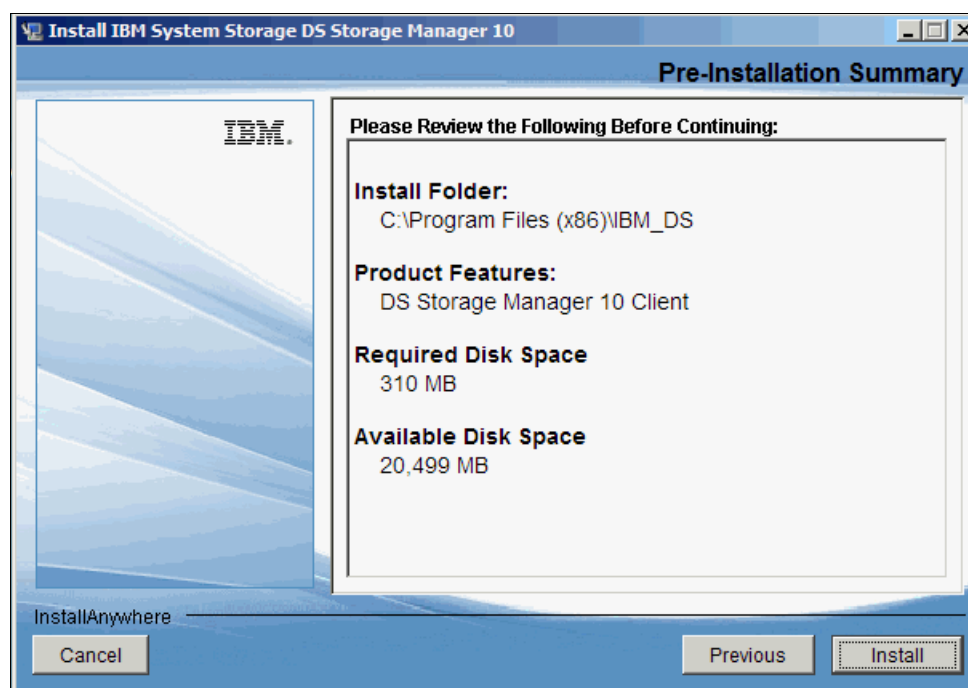

Figure 5-11 IBM DS Storage Manager Pre-Installation Summary
11. Verify the pre-installation summary and click **Install**. See Figure 5-11.